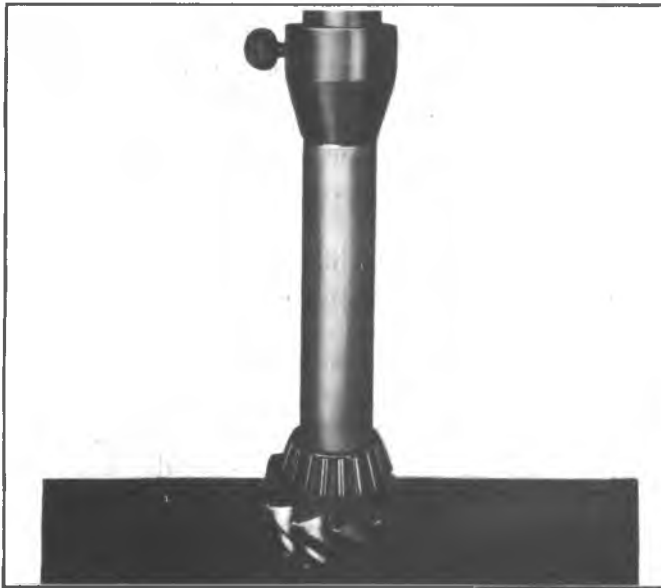

Fig. 24B--Installing Rear Bearing
17. Lubricate the rear pinion bearing with liberal amounts of hypoid lubricant and install rear bearing. Use J-8609-01 for the 8-1/2" ring gear or J-5590 for the 8-7/8" ring gear or J-6547 for the 9 1/2" ring gear, as shown in figure 24B.
7. While observing the preceding caution, carefully set preload drag at 20-25 inch pounds on new bearings, or 10-15 inch pounds on reused bearings. Use an inch-pound torque wrench such as J-5853 as shown in figure 24B, to measure the rotating torque.